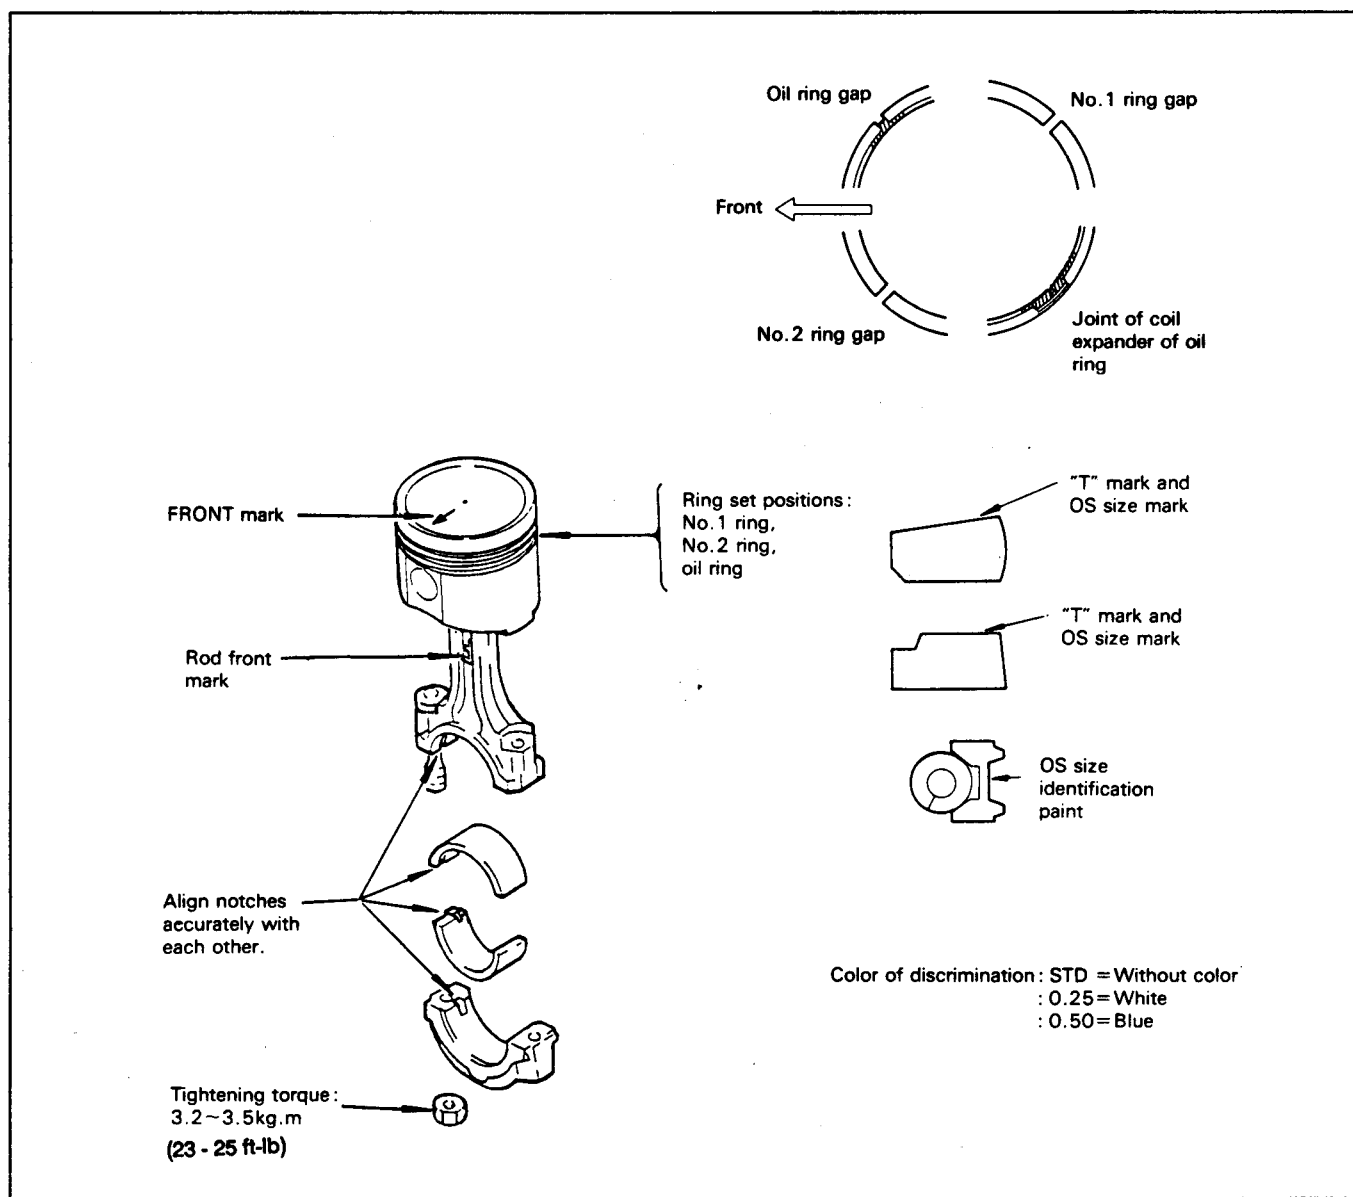

Figure 100
15. Install the piston rings. Each piston ring has different shape. Make sure they are installed in the proper position and with the ring gaps in the directions as illustrated (Fig. 100).